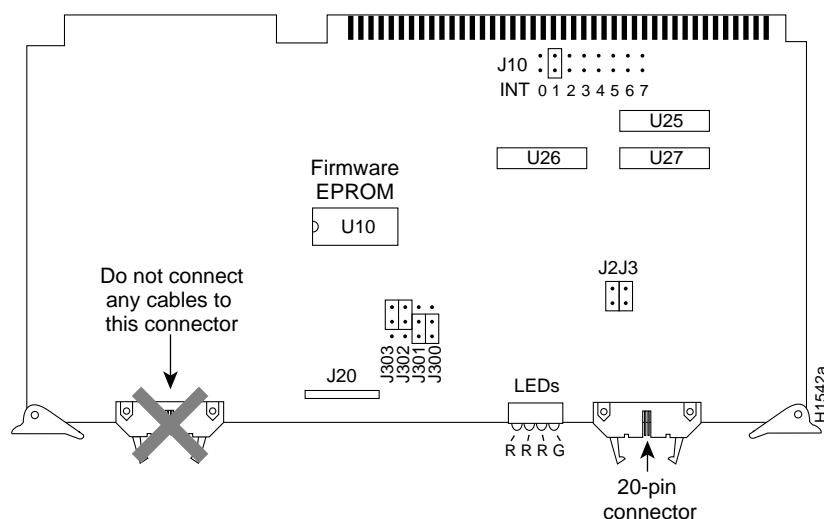

Figure 1 CSC-ENVM Environmental Monitor Card—Component Side View
- Step 6** Check for proper jumper settings on the new CSC-ENVM card. The jumpers are set at the factory for correct operation. (See Figure 1.)
Step 8 Attach the CSC-ENVM control cable to connector J20. This control cable must attach to the four pins on the right side (orientation is with the card front edge facing you) of J20 (see Figure 1). The opposite end of the control cable is attached to the power supply and should be already connected.
Caution To prevent network damage, do not connect any cables to the connector located on the left front edge of the CSC-ENVM card. (See Figure 1.)
Step 6 Referring to Figure 1 on page 10, locate the EPROM (socket position U10) on the CSC-ENVM card.
Step 7 Use the chip extractor tool or small flat-blade screwdriver to carefully remove the old EPROM from its socket. Note the position of the notch (see Figure 1) in the EPROM and socket; use this notch to position the new EPROM. Do not rely upon the orientation of the label on the new EPROM for proper insertion.
Step 9 When the new EPROM has been installed, check for proper jumper settings. The factory default settings shown in Figure 1 should match the settings on your card. There are no user-configurable jumpers on the CSC-ENVM card.
Step 11 Attach the CSC-ENVM control cable to connector J20. This control cable must attach to the four pins on the right side (orientation is with card front edge facing you) of J20. (See Figure 1.) The opposite end of the control cable is attached to the power supply and should be already connected.
Caution To prevent network damage, do not connect any cables to the connector located on the left-front edge of the CSC-ENVM card. (See Figure 1.)
Step 2 Check the four LEDs located near the control connector (see Figure 1) on the front edge of the CSC-ENVM. Only the green LED should be on. If any other LED or combination of LEDs is on, turn OFF the system and check the CSC-ENVM card and cables for proper installation. Refer to Table 2 for the function of the LEDs. Contact your service representative if LEDs fail to come on properly.